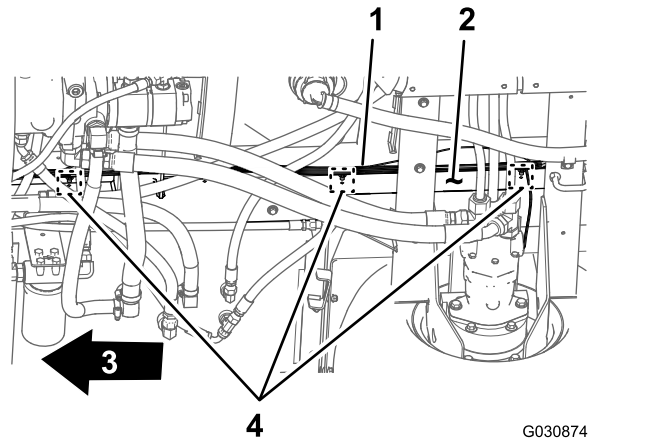

Figure 21
3. Remove the 3 push-in fasteners that secure the rear wire harness to the holes in the right frame tube of the machine (Figure 21).